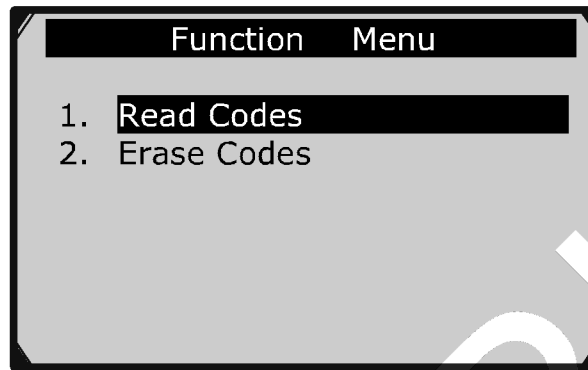
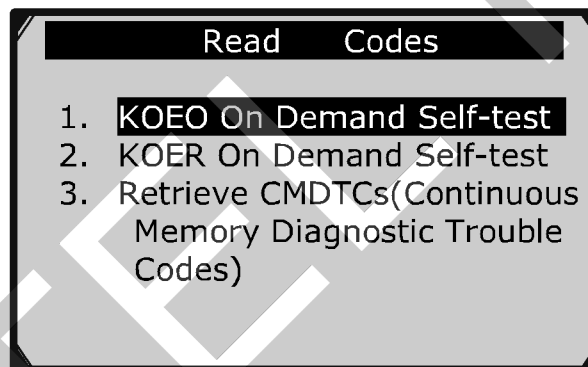

Figure 5.23
Figure 5.24
In the **Function Menu** screen (Figure 5.23), select **Read Codes**. This will display the **Read Codes** menu screen. (Figure 5.24)
1. With the **Function Menu** screen displayed (Figure 5.23), click on **Erase Codes**. The scan tool displays an instruction message.